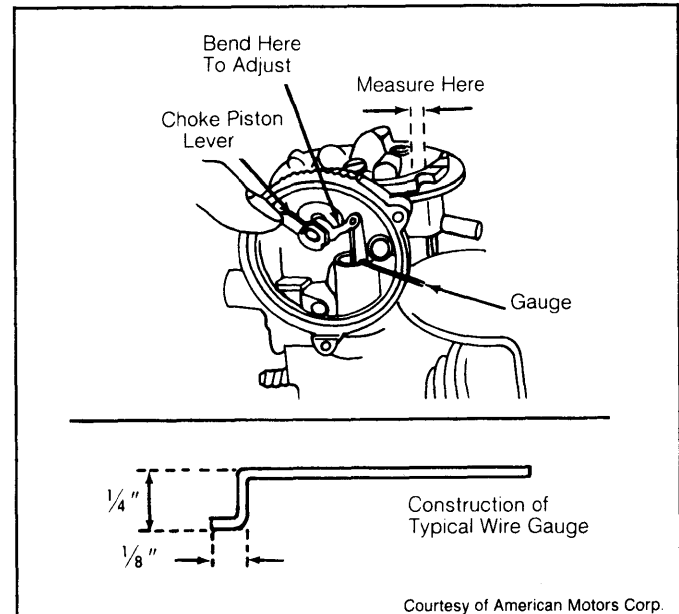

Fig. 7: Piston Type Choke Plate Pull-Down Adjustment
2) Fabricate a wire gauge by bending .026" diameter wire at a 90° angle approximately 1/8" from one end. Insert the bent end of the wire gauge between choke piston slot and right hand slot in the choke housing. See Fig. 7.